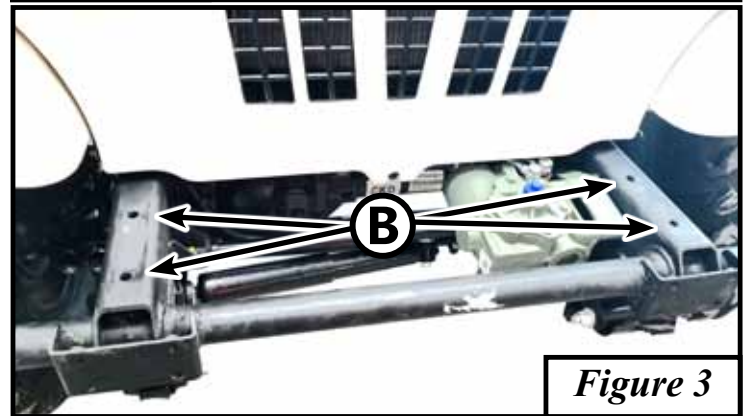
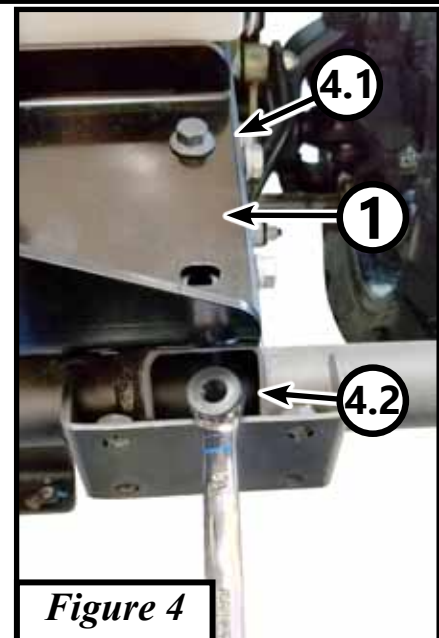

Figure 3
Figure 4
3. Once front bumper is removed, install winch mount (1) onto the front frame rail using the four bolt holes labeled (B) shown in **Figure 3**. Fasten winch mount (1) down using 4x 1/2" Bolts (4.1) and 1/2" Nut (4.2) as shown in **Figure 4**. **NOTE:** To install bolts, place 1/2" Nut (4.2) into 18mm wrench as shown in **Figure 4** and hold under bolt hole inside of the frame tube. Tighten down all hardware before re-installing front bumper.